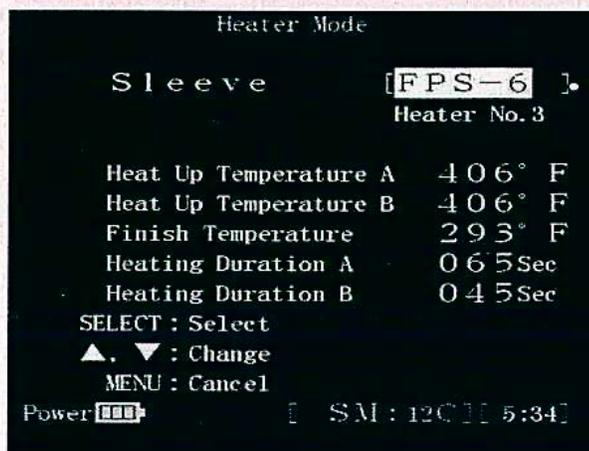

Figure 11. Editing Action Blocks
4.2.1 Action blocks are used to edit various functions and numeric inputs throughout the splicer menus. They are indicated on screen by a double bracket as show in Figure 11. For example, to change the available functions under HEATER CONDITION, perform the following procedure: